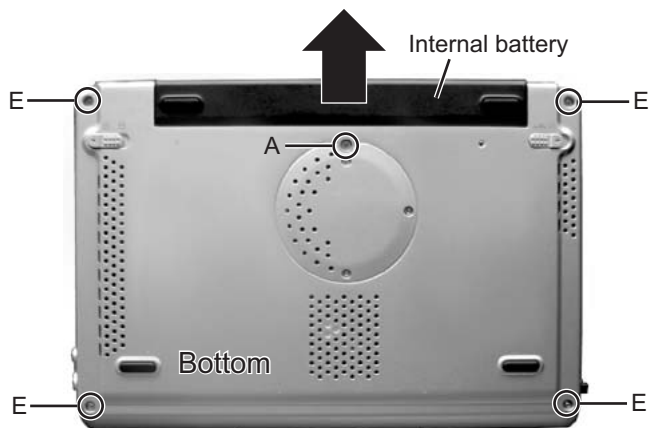
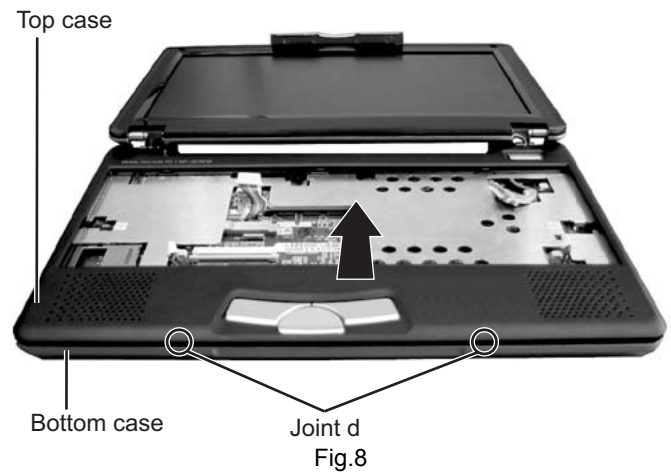

Fig.1
Fig.8
1.1.1 Removing the internal battery (See Figure 1)
1.1.3 Removing the top case and LCD panel assembly (See Figure 1 and Figure 5 ~ Figure 8)
(2) Remove the four screws **B** attaching the top case.
(3) Remove one screw **C** (short) and one screw **D** (long) attaching the shield plate.
(4) Reverse the main body, and remove the four screws **E** on the bottom of the main body. (See Figure 1)
(5) Disconnect the connector wire from the connector CN2 on the mother board. Similarly, remove the connector wires from the connectors CN3, CN5, and CN7.
(6) Remove one latch **c** on the rear side of the main body, and release the two joints **d** while moving the top case in the rear direction.